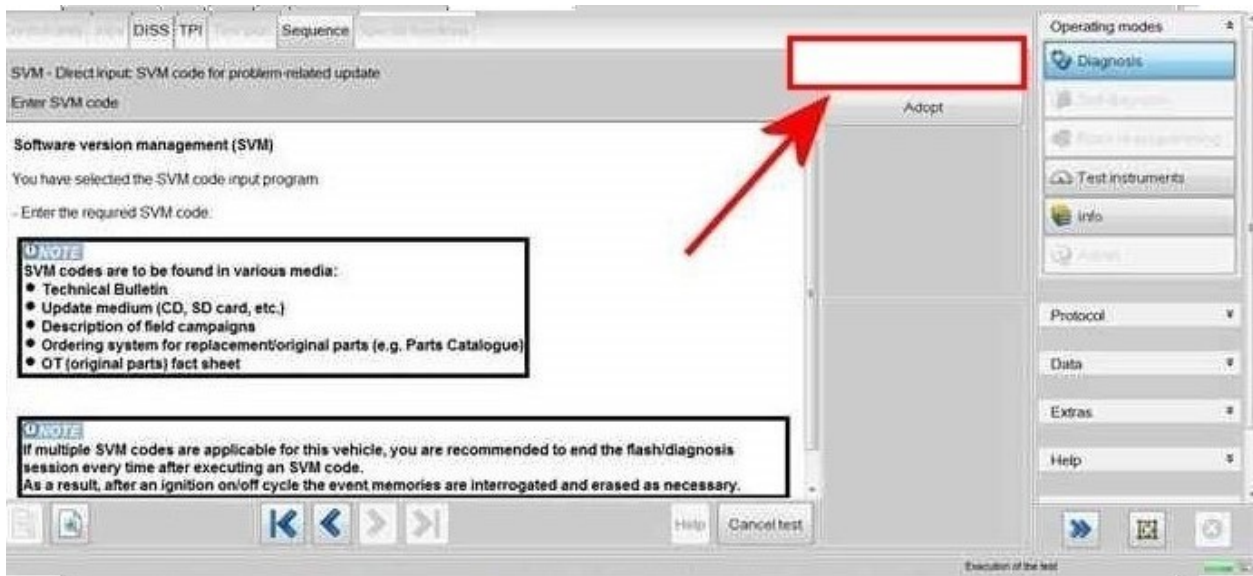

Figure 11
3) Referring to Figure 11 - Enter the SVM code **372WDD02**